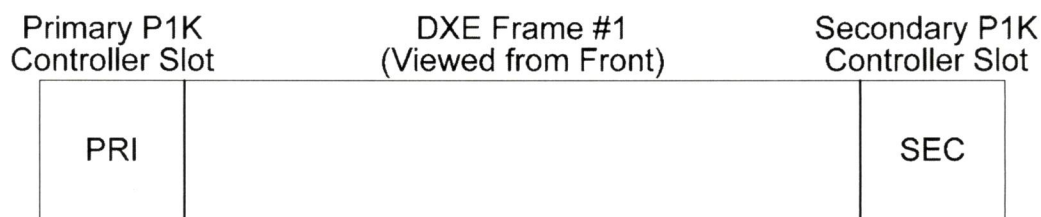

Figure 28. DXE Frame Front Panel Layout
- ☐ 3. Insert a P1K into the Primary P1K Controller Slot, see Figure 28. Be sure that power is applied to the main power connector. Allow a few seconds for the P1K to boot.